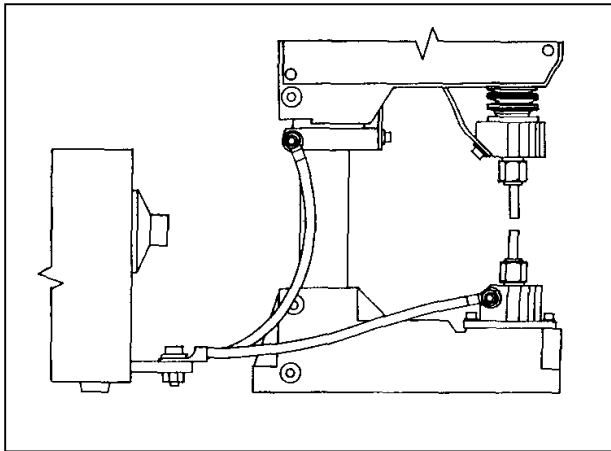

Figure 2-8. 90F and 90A In-line Weld Head Connections
- 1 Reference Figures 2-8 AND 2-9. Position the Power Supply or Welding Transformer approximately 4 to 5 inch behind the Weld Head. Connect one 16 inch WELDING CABLE to the left side of the WELD HEAD POWER STRAP using a 5/16-18 x 1/2 CAP HEAD SCREW. The FLAT WASHER goes between the CAP HEAD SCREW and the WELDING CABLE terminal.